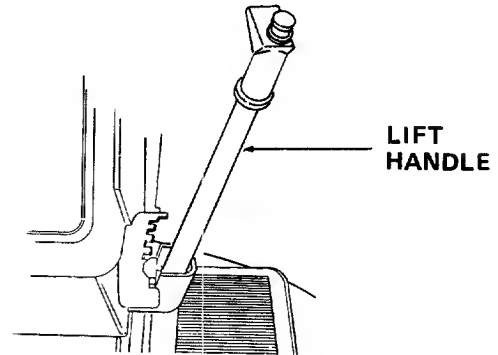

Figure 30
2. Place the lift handle (Figure 30) in position number 6.